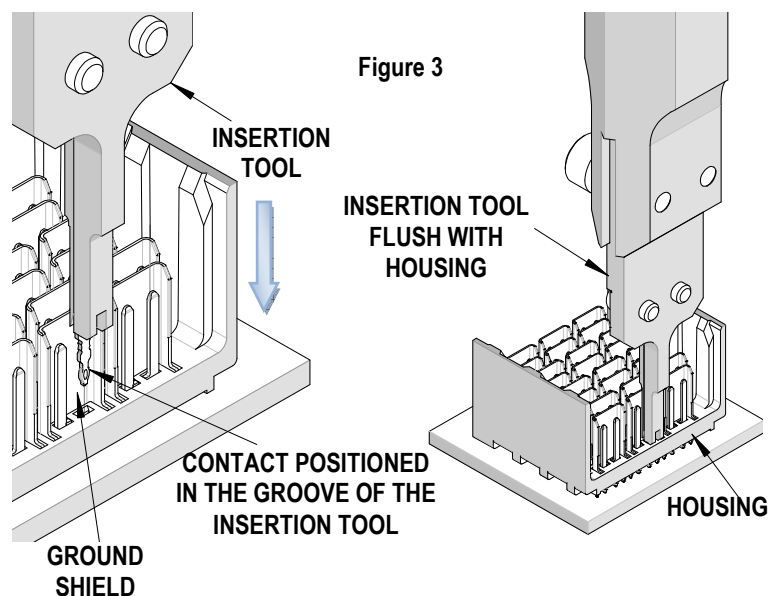

Figure 3
7. Continue pushing the signal contact until the insertion tool and terminal shoulder are seated securely to the inside housing surface. See Figure 3.